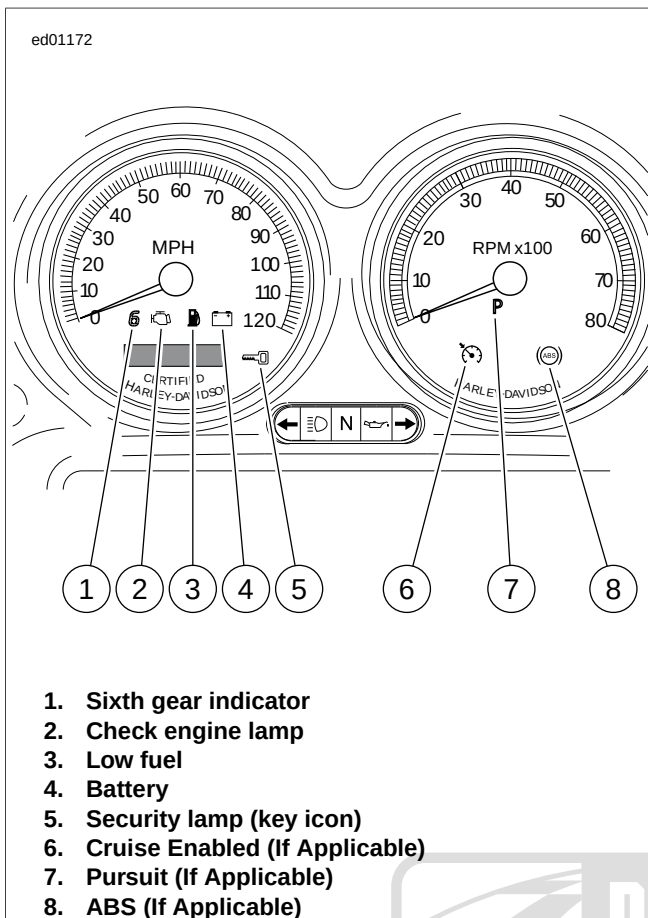

Figure 6-5. Instrument
See Figure 6-5. The Instrument Module (IM) illuminates the ABS indicator when the following occurs.